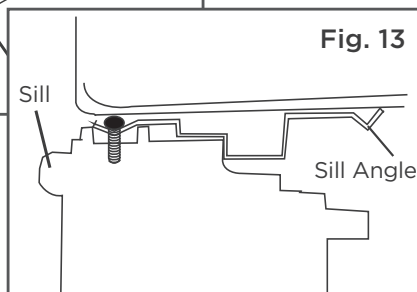

Fig. 13
2. Place cabinet in window with bottom sill angle firmly seated over window sill as shown. Bring window down temporarily behind top rail to hold cabinet in place (Fig. 13).